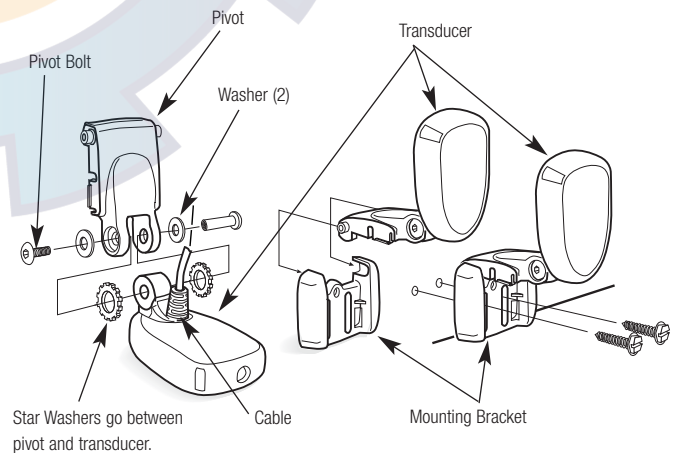

Figure 4
1. Attach the Pivot to the transducer body, as shown in (Figure 4), using the #8 - 3/8" (9mm) long allen headed pivot screw, the headed pin, the two flat washers, and the two toothed lock washers.
3. Insert the pivot/transducer assembly into the mounting bracket, as shown in (Figure 4).